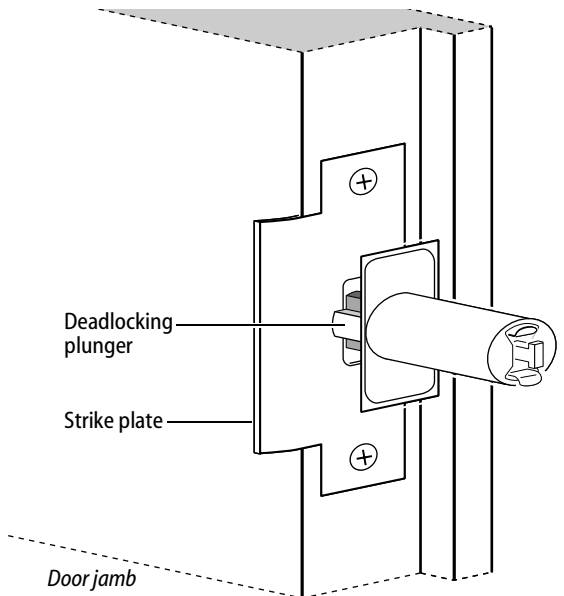

Figure 5b Aligning the deadlocking plunger with the strike plate
**Caution:** The deadlocking plunger of the latchbolt must make contact with the strike plate, as shown in Figure 5b. The plunger deadlocks the latchbolt and prevents someone from forcing the latch open when the door is closed.